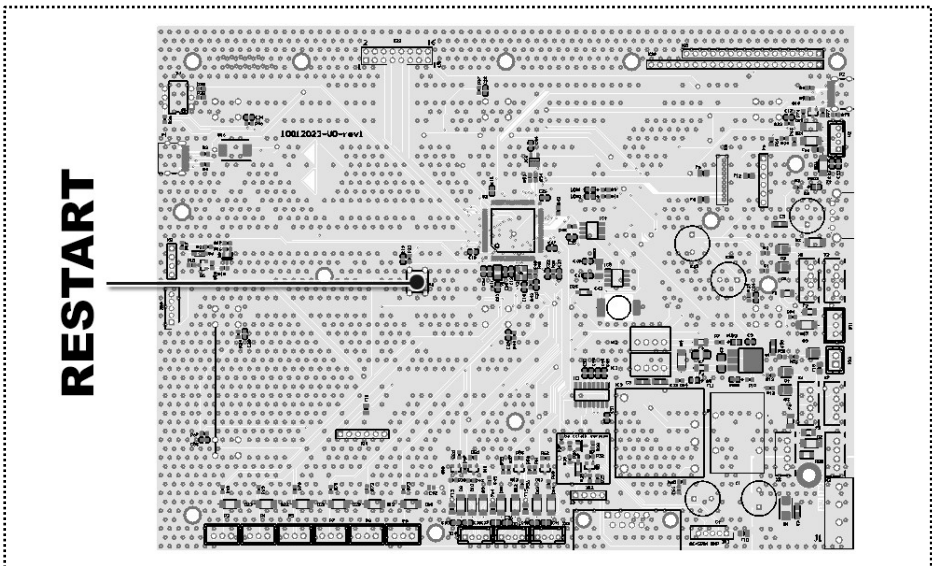

Figure 13.5: Position of the reset button on the motherboard
1. With the machine turned on, press the reset button in the middle of the motherboard, to the left of the microcontroller (see Figure 13.5).